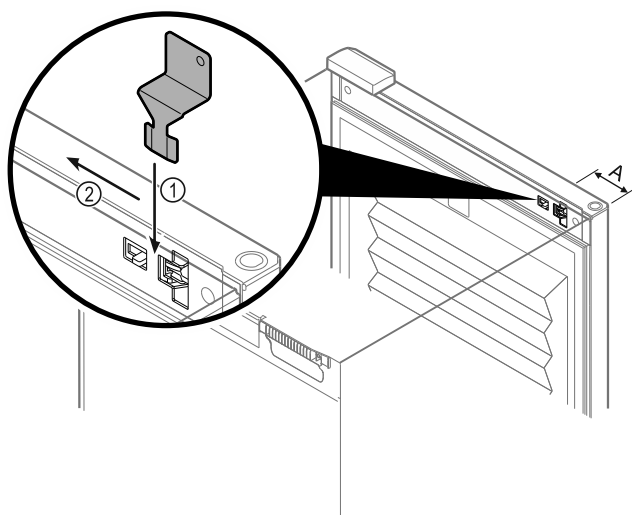

Fig. 101
- ▶ Insert the emergency release key in the specified position Fig. 101 (A) ≈ 100 mm.
- ▶ Insert the emergency release key Fig. 101 (1) between the door and the body of the appliance from above to the end stop.
- ▶ Pull the emergency release key towards the hinge. Fig. 101 (2)